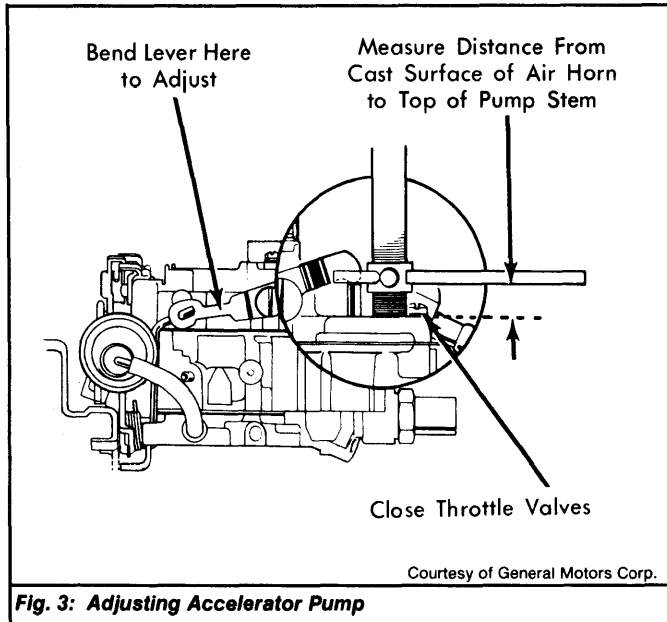

Fig. 3: Adjusting Accelerator Pump
- 1) Close throttle valves completely. Make sure fast idle speed screw is off fast idle cam. Using a "T" scale, measure accelerator pump specified distance from cast surface of air horn to top of pump stem. See Fig. 3.